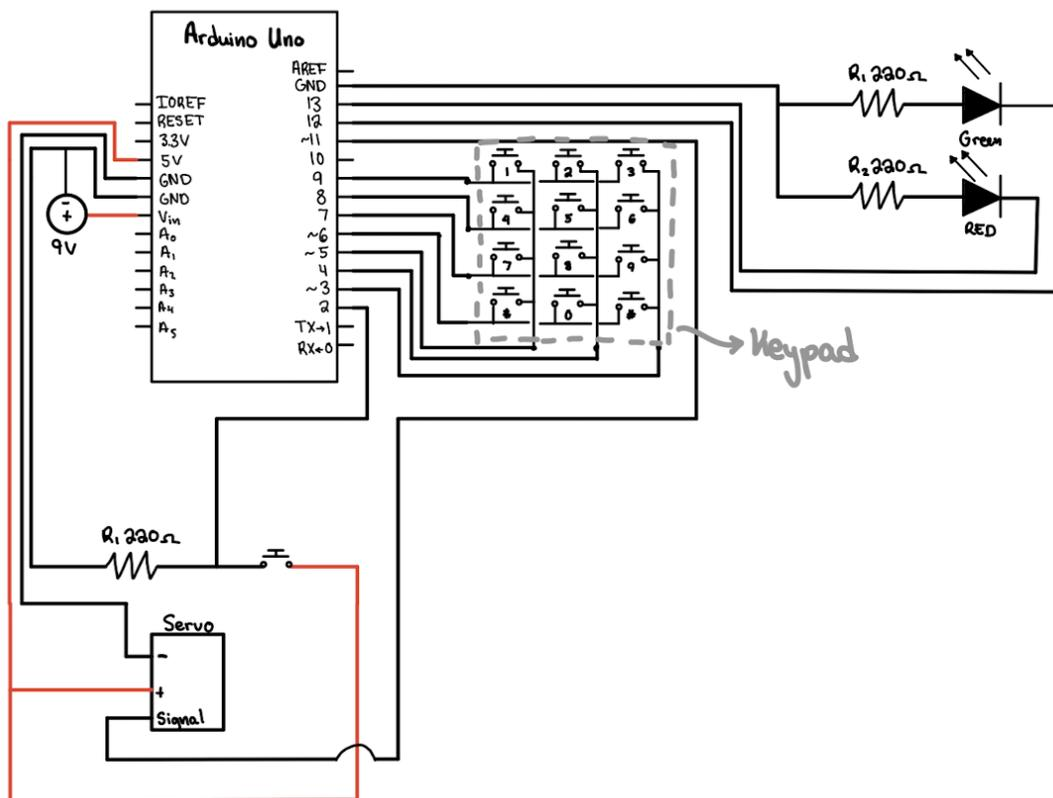

Figure 3: Circuit Diagram
2. Use the circuit diagram (Figure 3 in Appendix B) to build the circuit